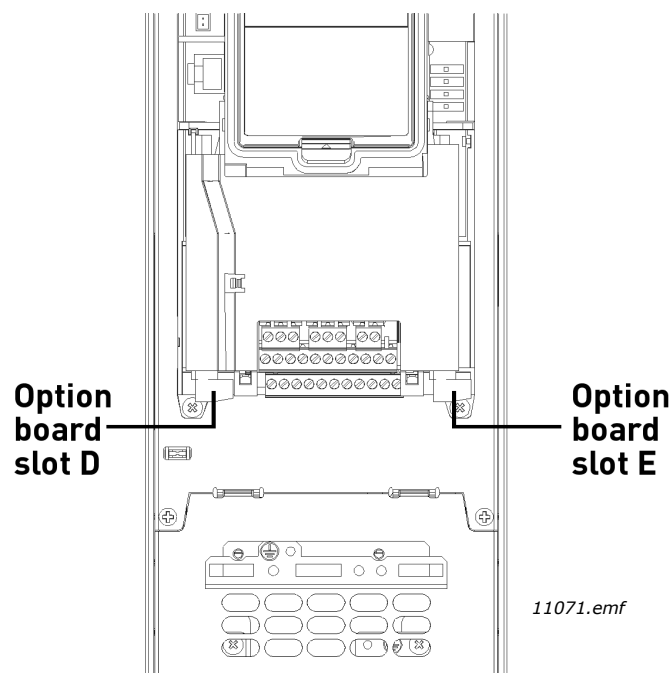

Figure 14. Option board slots
**A** and **B** are Vacon AC drive standard boards, **D** and **E** are option boards (see Figure 14). See Chapter 3.6.2.3.